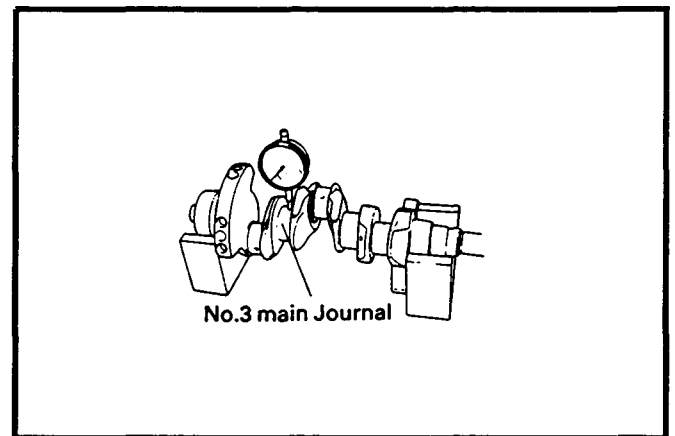

Figure 19.
18. Check the crankshaft for bending at the No. 3 main journal. See Figure 19.